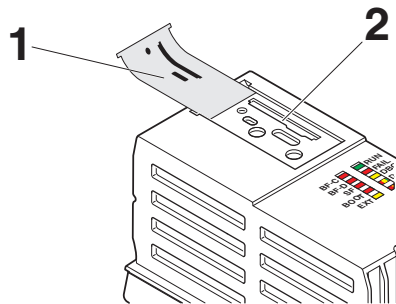

Figure 4-8 Removing the upper marking field of the AXC F 1152 and AXC F 2152
- On the AXC F 1152 and AXC F 2152, remove the upper marking field of the controller (item 1 in Figure 4-8).